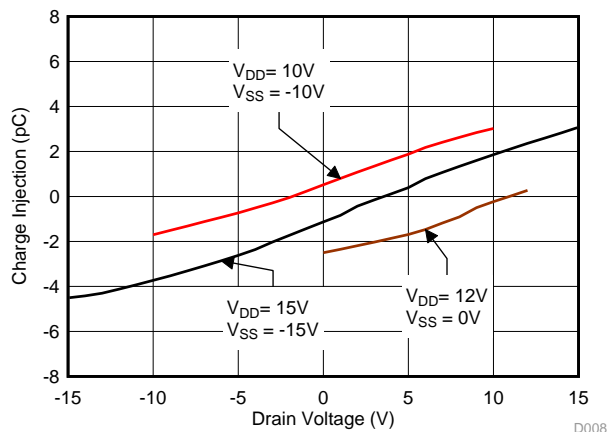

Figure 33. Charge Injection vs Drain Voltage
The drain (D)-to-source (SA or SB) charge injection becomes important when the device is used as a demultiplexer (demux), where D becomes the input and Sx becomes the output. Figure 33 shows the drain-to-source charge injection across the full signal range.